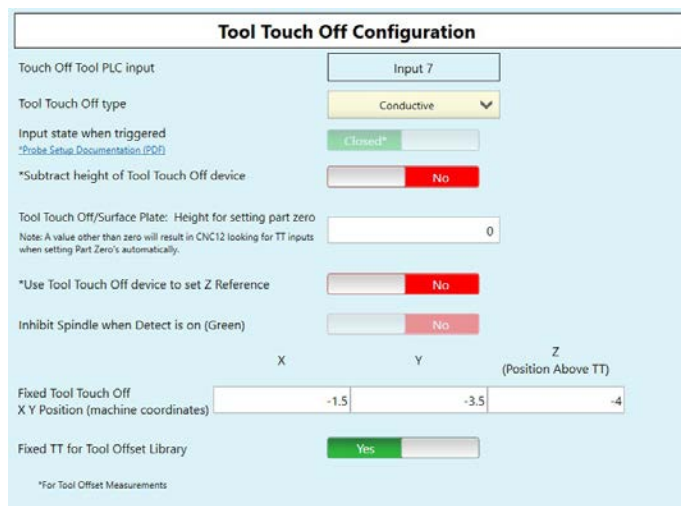

FIGURE 14
10. Tool Touch Off Configuration “Settings” (see Figure 14).
**Tool Touch Off/Surface Plate:** Height for setting part zero: We enter (0).